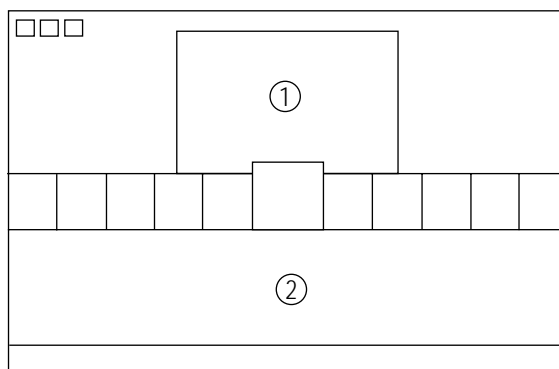

Fig. 4-4
Set SCT to 40 ± 5 fL in the Factory Service Mode with using CA100. (See Fig. 4-4 ①)
Set SBT to 1.5 ± 0.2 fL in the Factory Service Mode with using CA100. (See Fig. 4-4 ②)